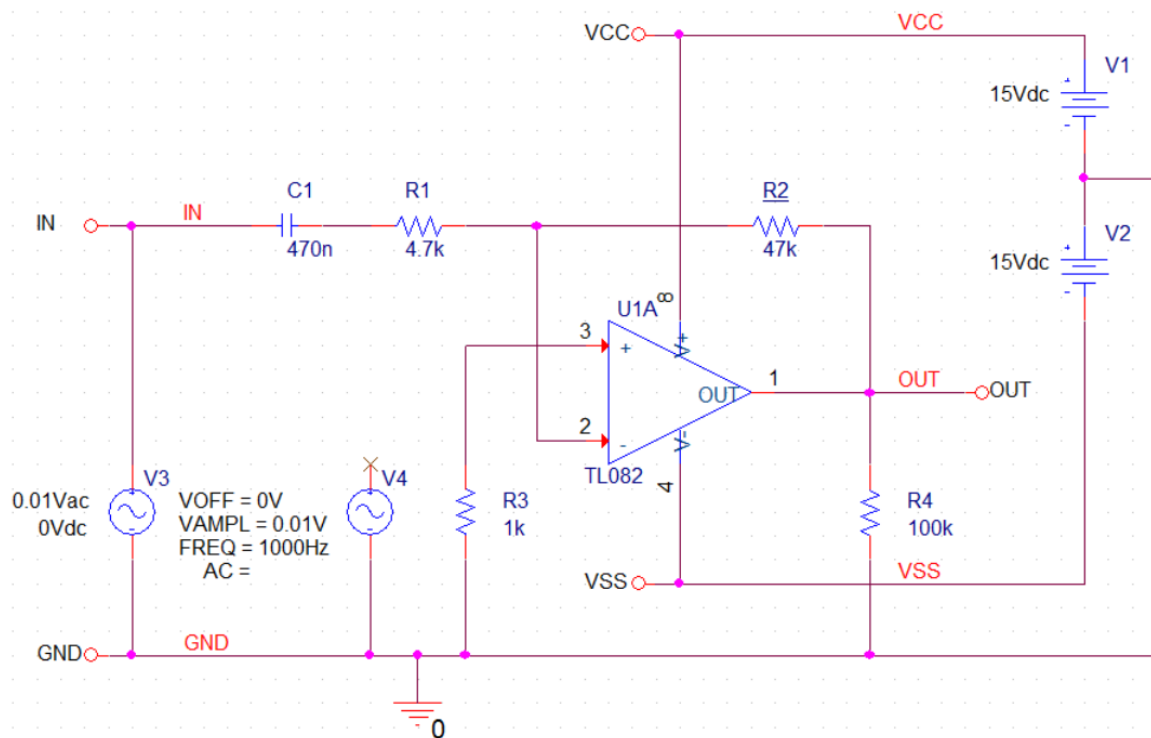
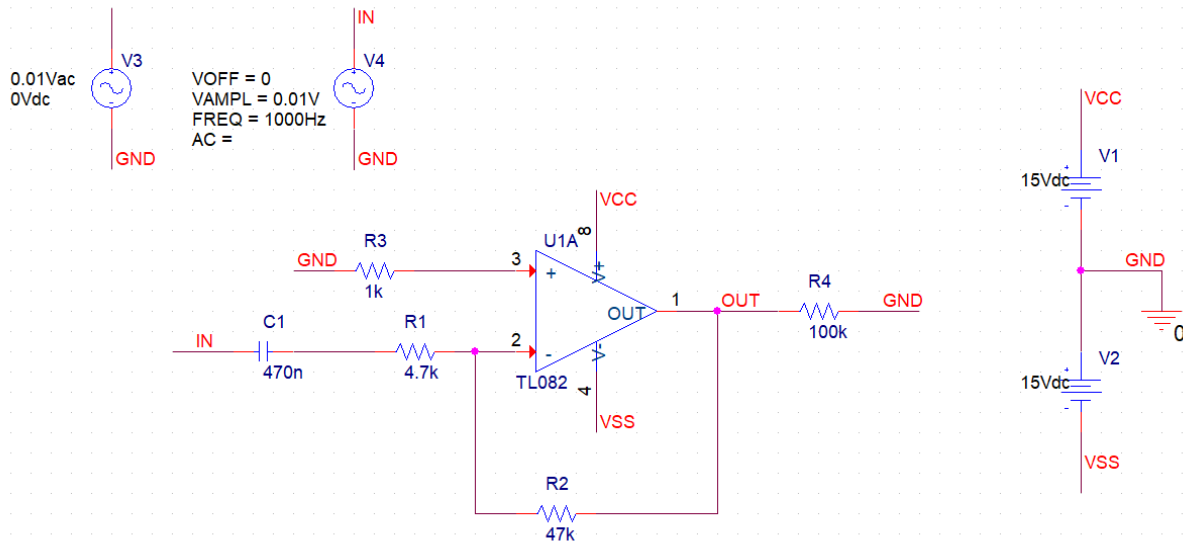

Figure 2-2 Wiring diagram of the inverting amplifier
Figure 2-4. Alternative wiring using labels.
The Design Cache is on the same level as AMPLIFIER. This library will contain information about the parts used in the design. Double-clicking on AmplifierA will bring up the circuit diagram. Here you can design the inverting amplifier circuit shown in Figure 2-2.
Finally, look for capacitors (C) in the ANALOG folder as well. You can change the value of the placed parts by clicking on them. Enter the appropriate parameters according to Figure 2-2. Note that the program is able to interpret the 100k syntax too. Use the dot character as the decimal point if needed.
Additional connection points can be created in Place-> Junction (J or ). Do not forget to make the nodes shared at the output and the cable above R4! (See Figure 2.2!) The ground signal must also be placed during wiring. This can be done with the Place-> Ground (G) menu item or the corresponding toolbar icon (.
The usefulness of Net tags is demonstrated by the fact that the density of complex cross-wiring can be made more transparent by using logically placed tags. This requires naming the free-hanging wires with a common label. Figure 2-4 shows the circuit of Figure 2-2 using Net labels. It is not necessary to redraw our plan for the solution shown in Figure 2-4, we only wanted to show an alternative option.